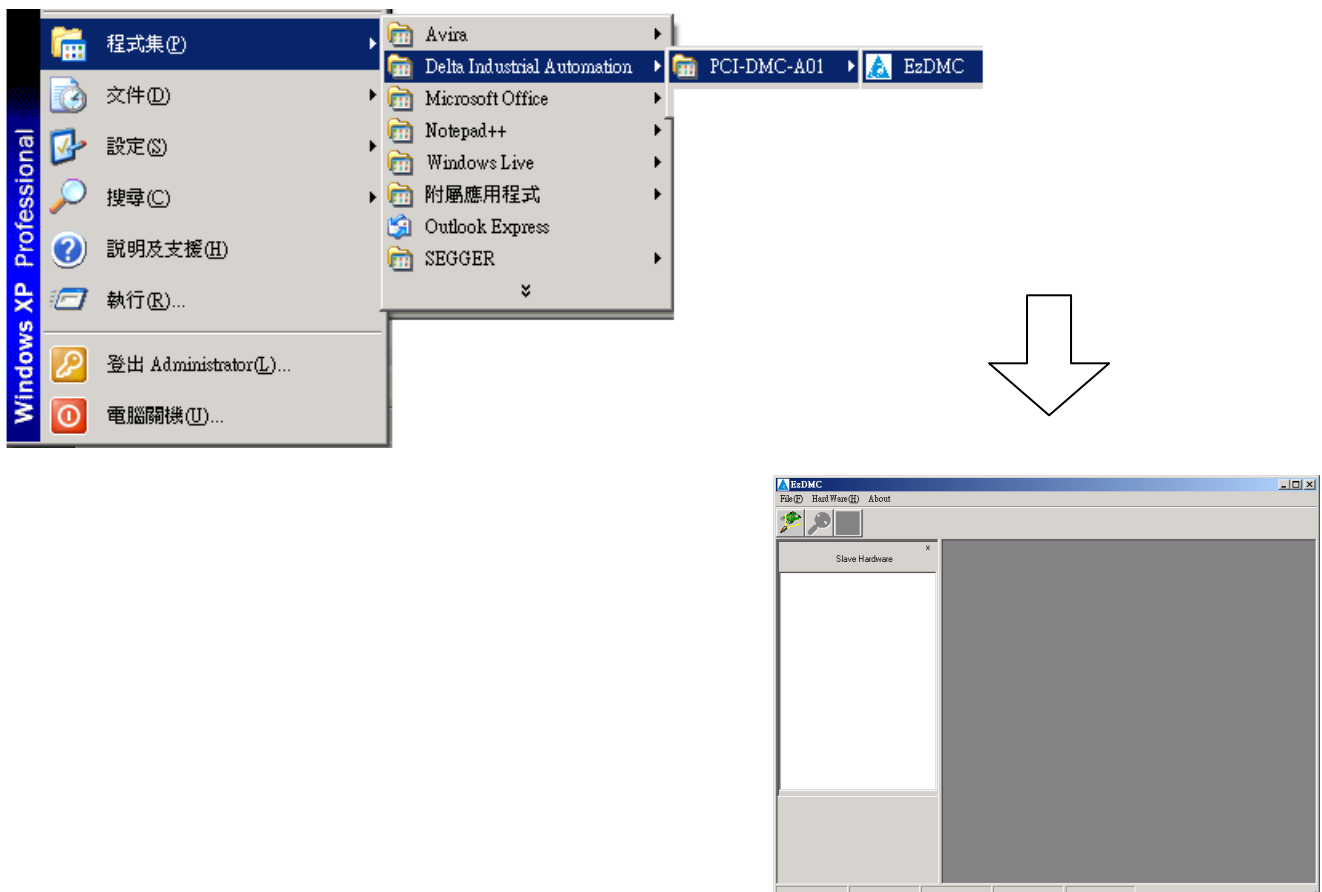
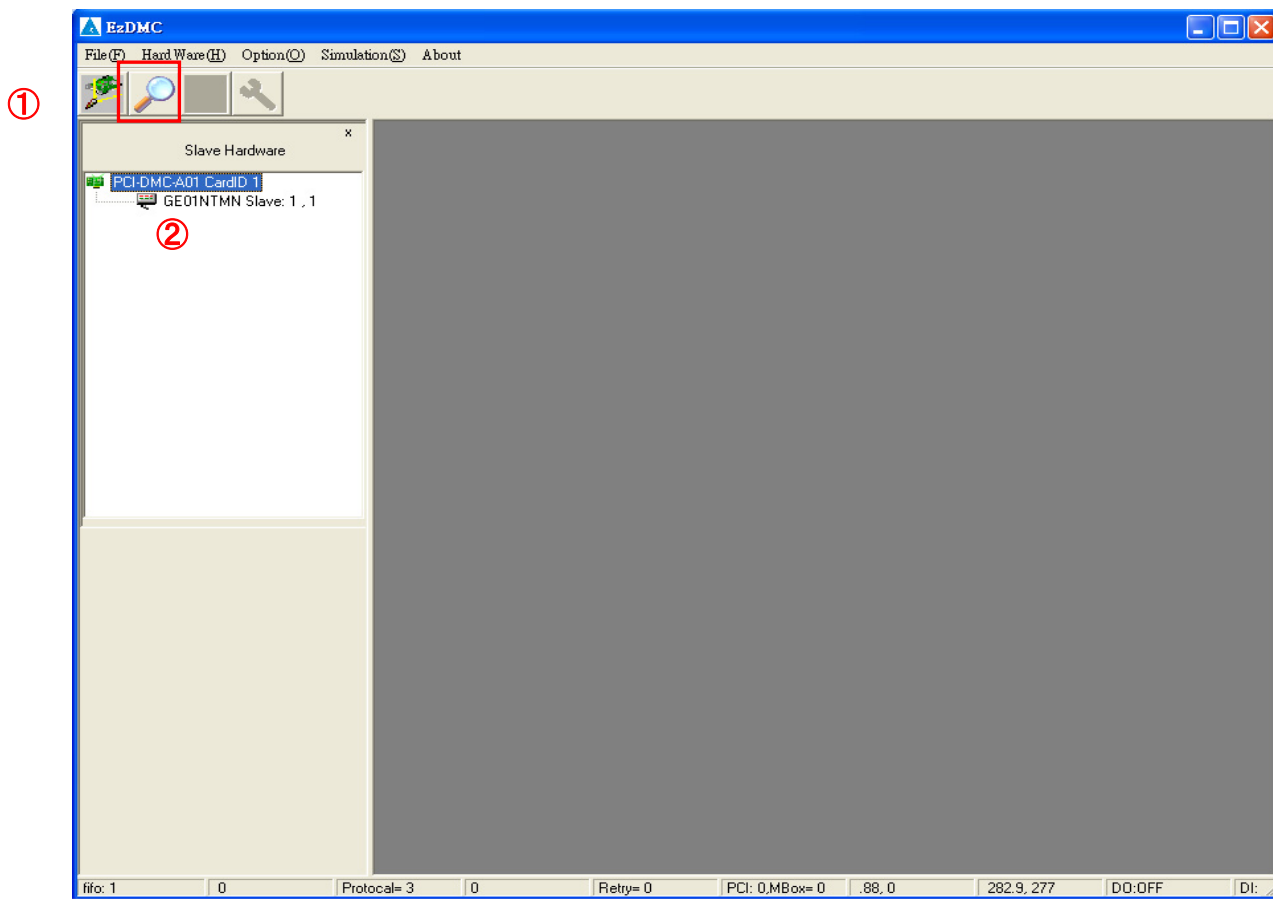

Figure 2.1 Launching EzDMC program
Figure 2.2 Finding a connected gateway module
- ① Click on Simulation → GE Node Calc in Figure 2.1; the screen shown in Figure 2.2 will appear.